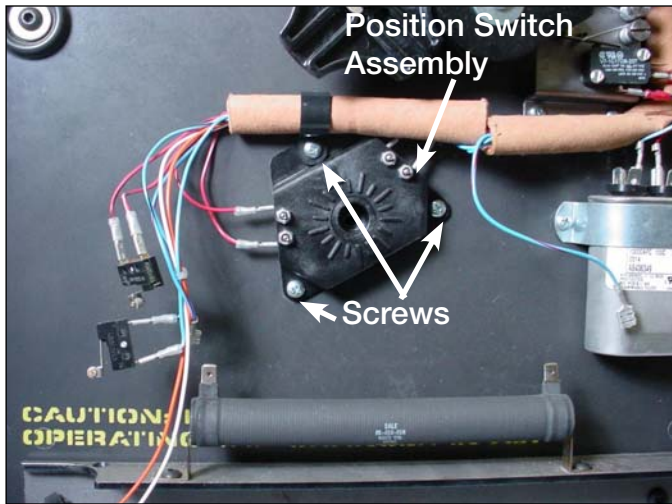

Figure 28.
- Fasten the tap position switch assembly to the front of the drive panel assembly with three pan head Phillip screws. See Figure 28.